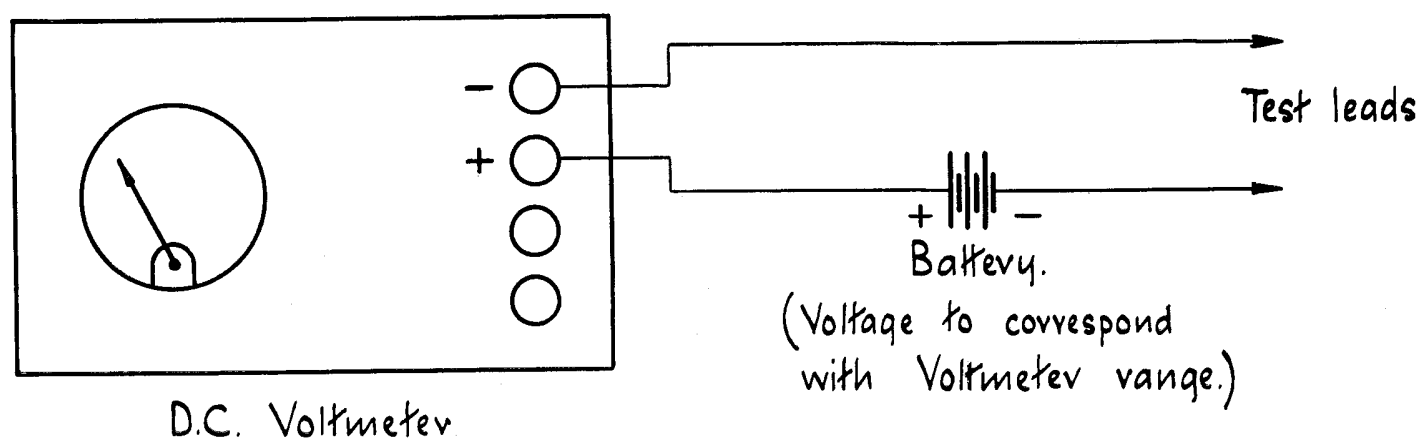

Fig. 1.—Continuity meter.
Continuity tests should be made with an ohmmeter or with a D.C. voltmeter in series with a battery. See Fig. 1.
- (1) For checking socket voltages.
- (2) As a circuit tester—See Fig. 1.